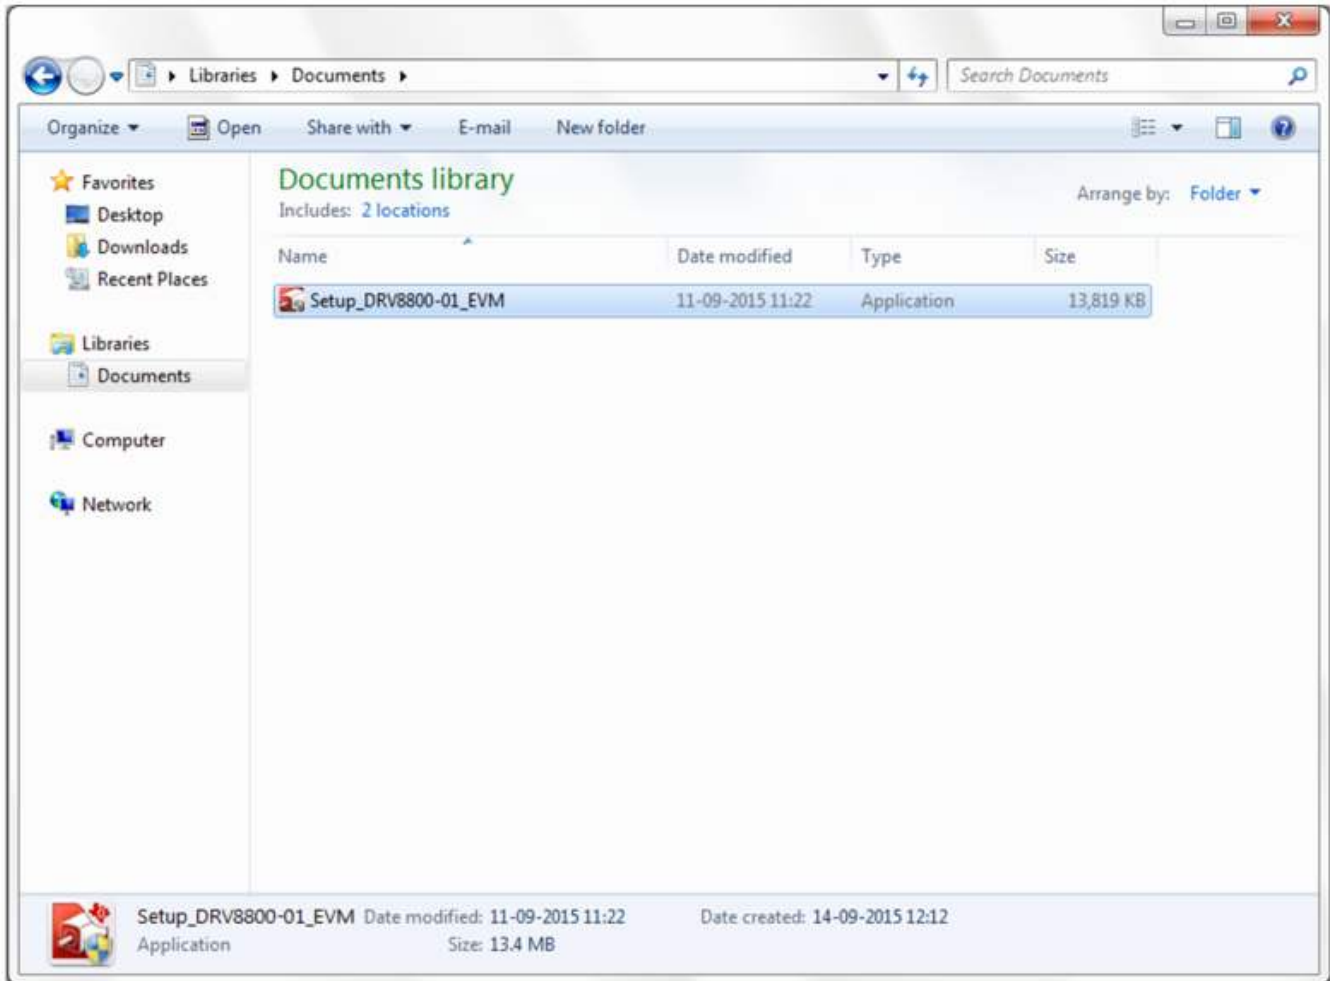

Figure 2. Setup_DRV8800-01EVM.exe
1. Double click on the **Setup_DRV8800-01EVM.exe** as shown in Figure 2.